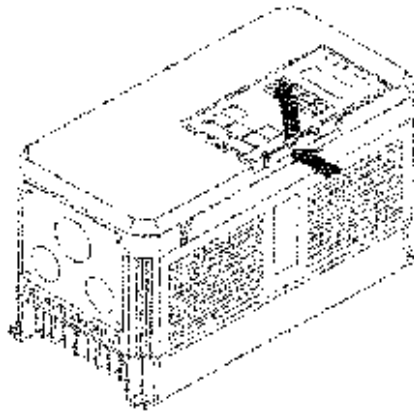

Figure 2-4
11. Remove the keypad from the front cover by pushing the depression area and lifting the keypad as shown below in Figure 2-4